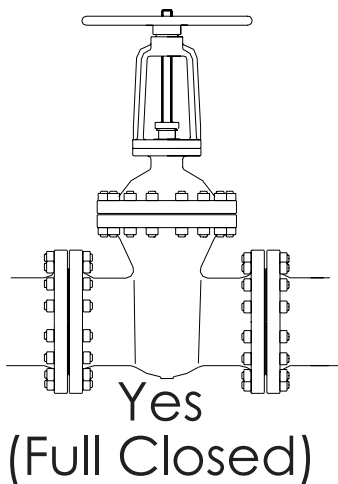

Fig. U-3
4) The gate valves shall be always in completely closed or completely open position: they are not suitable for regulating service (Fig. U-3, U-4 and U-5).